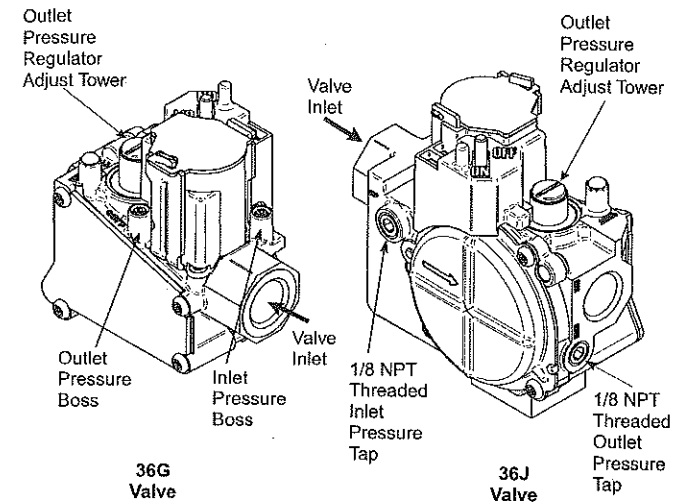

Figure 4 Pressure port and regulator adjust locations
2. Some models feature pressure tap bosses that eliminate the need for a separate fitting when checking pressure (See Figure 4). If valve is equipped with pressure tap bosses, back outlet pressure test screw out one turn (counterclockwise, not more than one turn). For models with 1/8 NPT threaded taps, the outlet pressure tap plug will need to be removed and a separate hose fitting installed.
3. Attach a hose and manometer to the outlet pressure boss of the valve (see fig. 4).